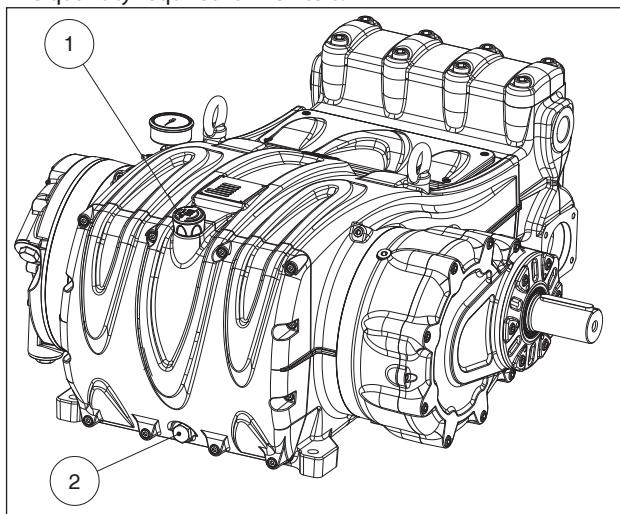

Fig. 3
Check the oil level via the oil dipstick that has a minimum and maximum mark ①, Fig. 3 and top up if necessary.
The correct checking of the oil level is made with the pump not running, at room temperature. The oil change must be made with the pump at working temperature, removing the plug pos. ②, Fig. 3.